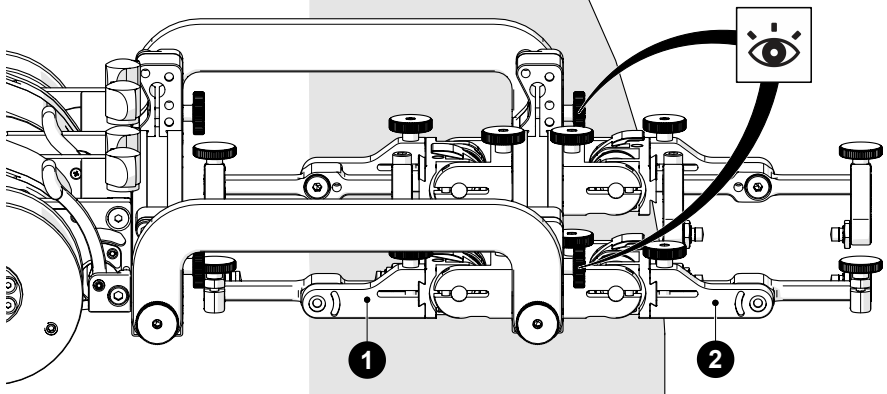

Fig. 239 - Position primary and secondary probe holders
2. Affix the probe holders (with attached wedges) to the low profile probe holder frame. On the frame bar, place the **2** secondary probe holders at the front and the **1** primary probe holders at the rear (Fig. 239).
3. Mount the low profile probe holder frame to the crawler (see “Swivel Mount” on page 64 for additional details). When mounting the low profile frame, ensure the attachment knobs (Fig. 239) are at the front (non-crawler side).